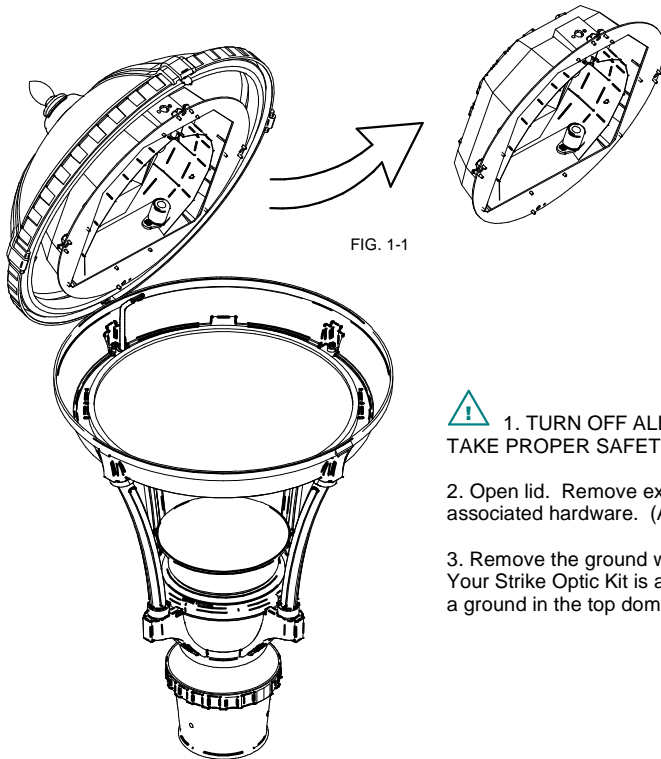

FIG. 1-1
2. Open lid. Remove existing reflector assembly and all associated hardware. (Applications vary.) (FIG. 1-1)